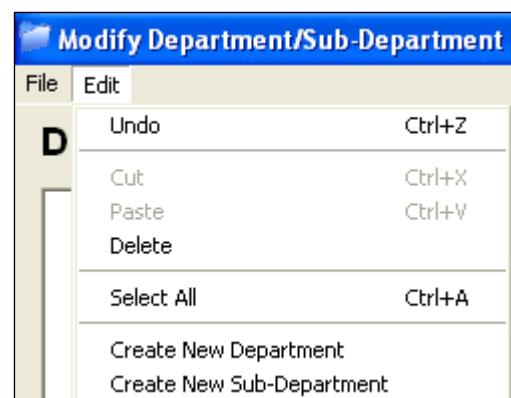

Figure 177
2. Highlight the department or sub department you wish to delete and select 'Delete' from the 'Edit' drop-down menu (see Figure 177).